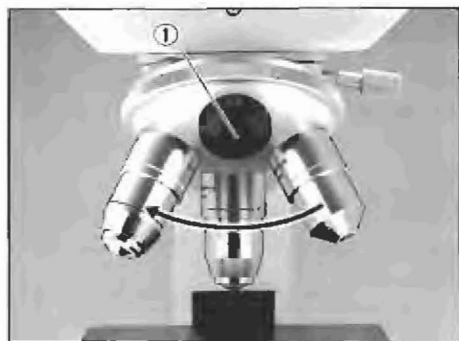

Fig. 6
- 2) Screw the objectives into the nosepiece, from low power to higher power in a clockwise direction. (Fig. 6)
- ★ Close the empty aperture in the nosepiece with a plug (1) provided. (Fig. 6)